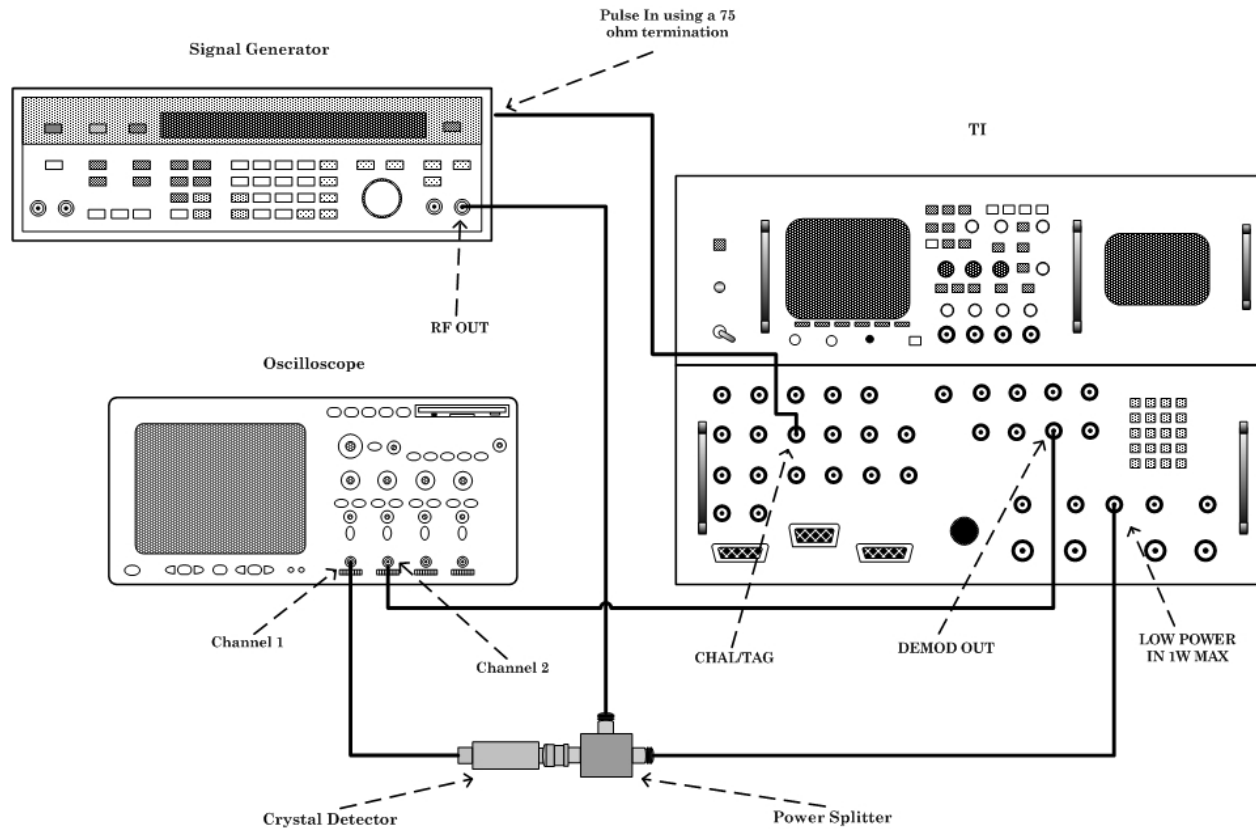

Figure 2. Spacing setup.
- (1) Connect equipment as shown in figure 2.
- (2) Press TI keys as listed in (a) through (r) below: